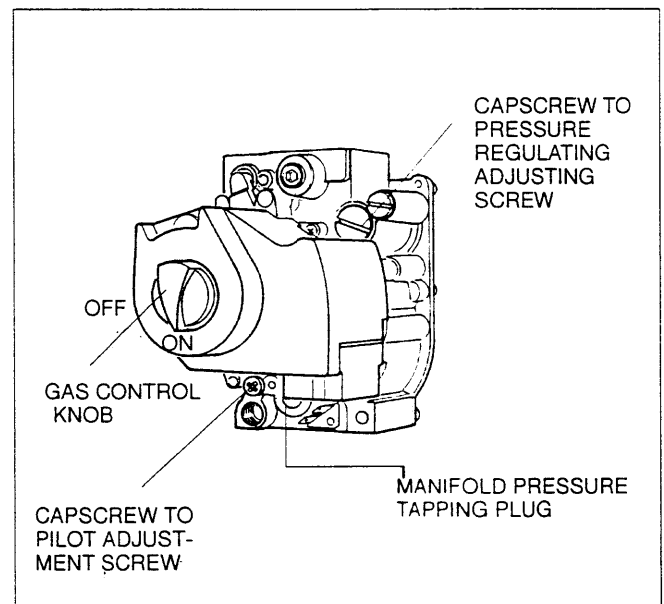
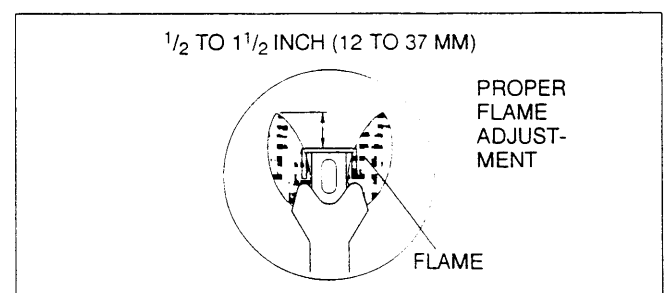

Fig.9
Fig.10
45. After adjustment, install the capscrew on the gas control, fig.9.
46. Observe the pilot flame through hole in the burner assembly plate. The flame should envelop the flame sensor  $\frac{1}{2}$ – $1\frac{1}{2}$  inch, fig. 10. If the pilot flame is satisfactory then go to step 47. If the pilot flame is too small or too large, adjust the pilot using the pilot adjustment screw., fig. 9. Turn the inner adjustment screw clockwise  to decrease, or counterclockwise  to increase the pilot flame. After adjustment, replace the cover screw and tighten firmly.